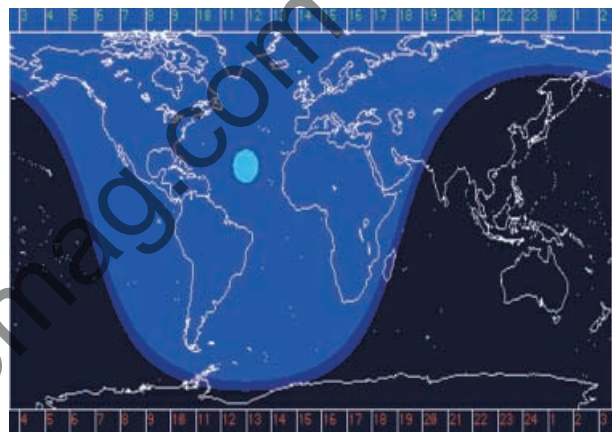
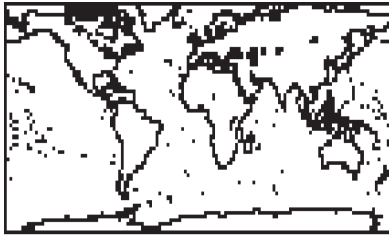

Fig.1. Real-time world clock as displayed by [www.world-clock.org](http://www.world-clock.org).
Fig.2. The image in Fig.1 was inverted to produce a black-on-white outline.
*World clock* produced an astonishing number of web sites, but none that showed the display looked for. However, one of the sites revealed the screen dump shown in Fig.1. This set the author along a completely different thinking path.
It eventually turned out to be fairly simple. The saved screen dump shown in Fig.1 was first converted to a black and white image, and then inverted to show black detail on a white background (Fig.2).